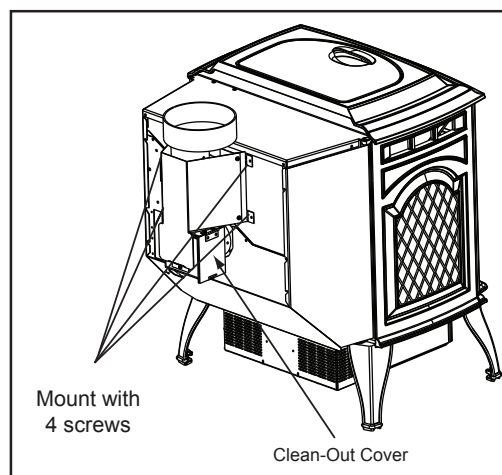

Figure 19.2
5. Drill 2 holes with #26 drill bit through the rear exhaust outlet using the 2 holes already in the short horizontal pipe in the top vent adapter as a guide. Install the 4 screws. **Figure 19.2.**